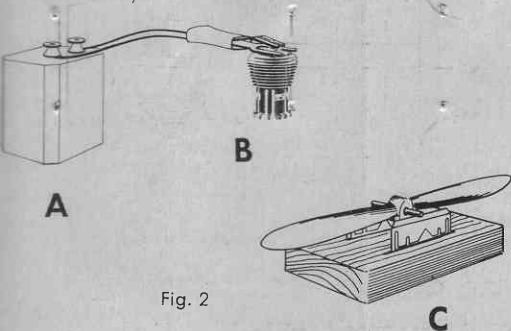

Fig. 2
4. Procure a 1 1/2 volt dry cell battery, #6 or equivalent, and connect it with 2 flexible insulated wires to a glow plug clip as shown in the diagram A and B-Fig. 2. Do not use a stronger battery. If you do, the plug will burn out. The connections should be soldered to insure good contact and taped to prevent bare ends of wire from getting together and "shorting" the battery. Be sure the battery is a good one. Your dealer sells batteries and glow plug clips. The Thimble-Drome plastic mounted glow plug clip with wires already attached is recommended.
5. Balance and trim propeller. This is very essential for good performance. Sand off any bead of plastic along edges of blades. Fit a drill or shaft through the hole and rest the shaft on razor blades set in wooden blocks as shown in C-Fig. 2. Sand the heavy blade until the propeller will balance in a horizontal position. Care must be exercised to do the sanding without spoiling the airfoil characteristics.
5. Connect the battery by snapping the clip on the glow plug. B-Fig. 2.